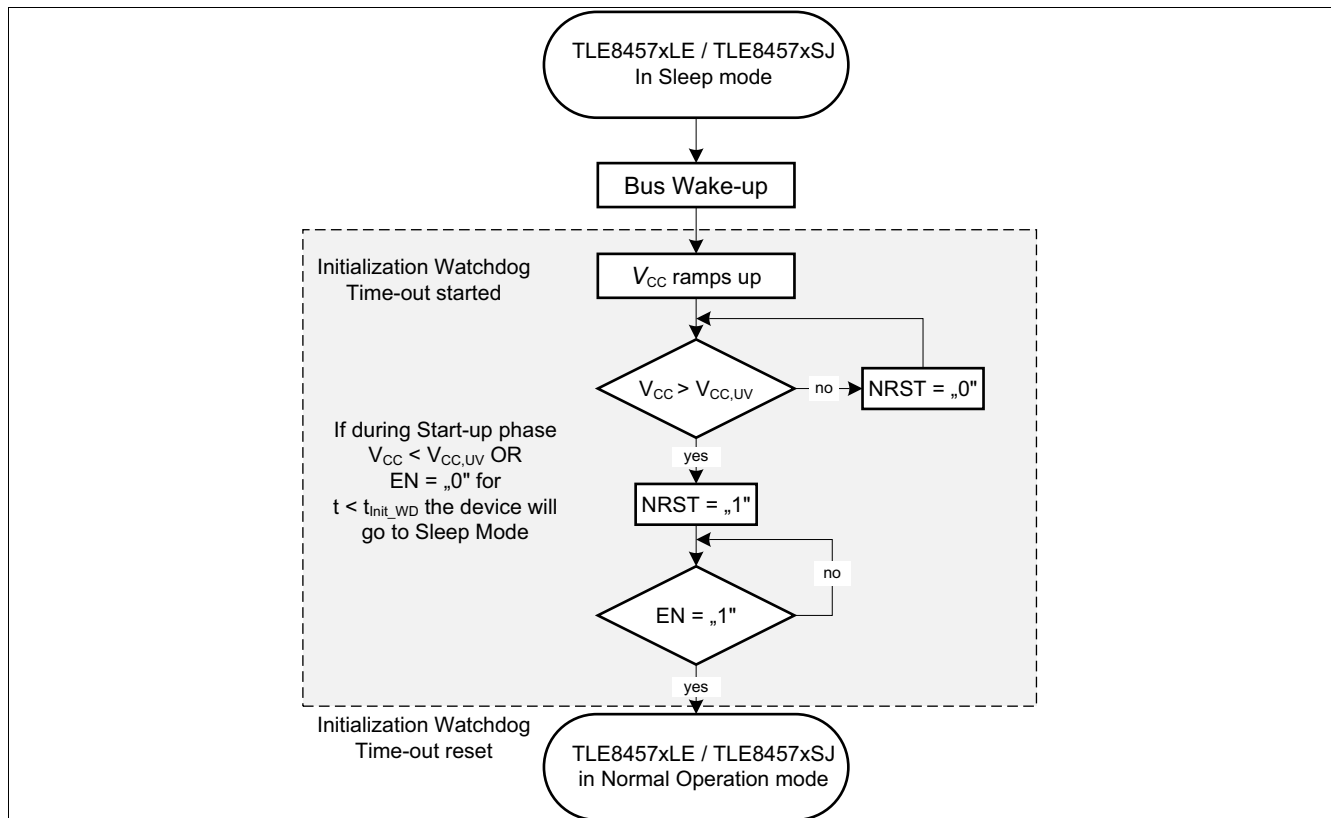

Figure 26 Power-up sequence after a bus wake-up event in Sleep Mode
- a wake-up event in Sleep Mode (see Figure 26)